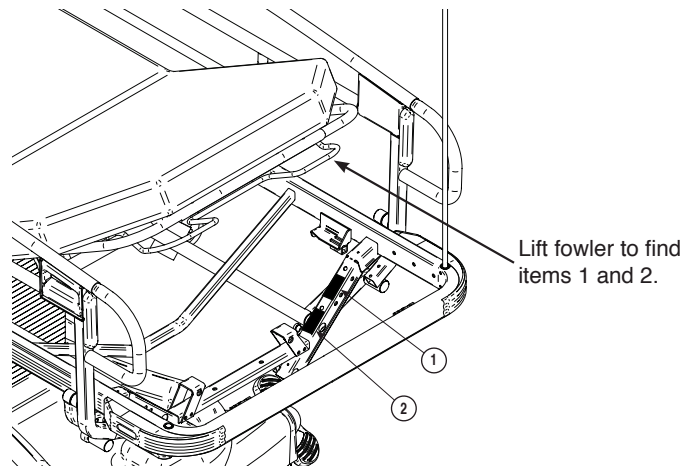

Figure 1-2. Model Number/Serial Number Location
- (1) Refer to Figure 1-2 to determine the location of the model number and serial number of the stretcher and record this data.